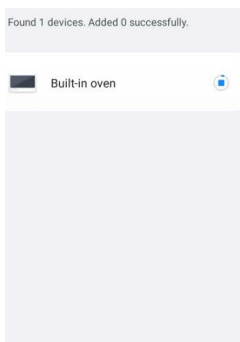

Fig.4
5. After entering the password, app and the device enter the connection state, as shown in Fig. 4.